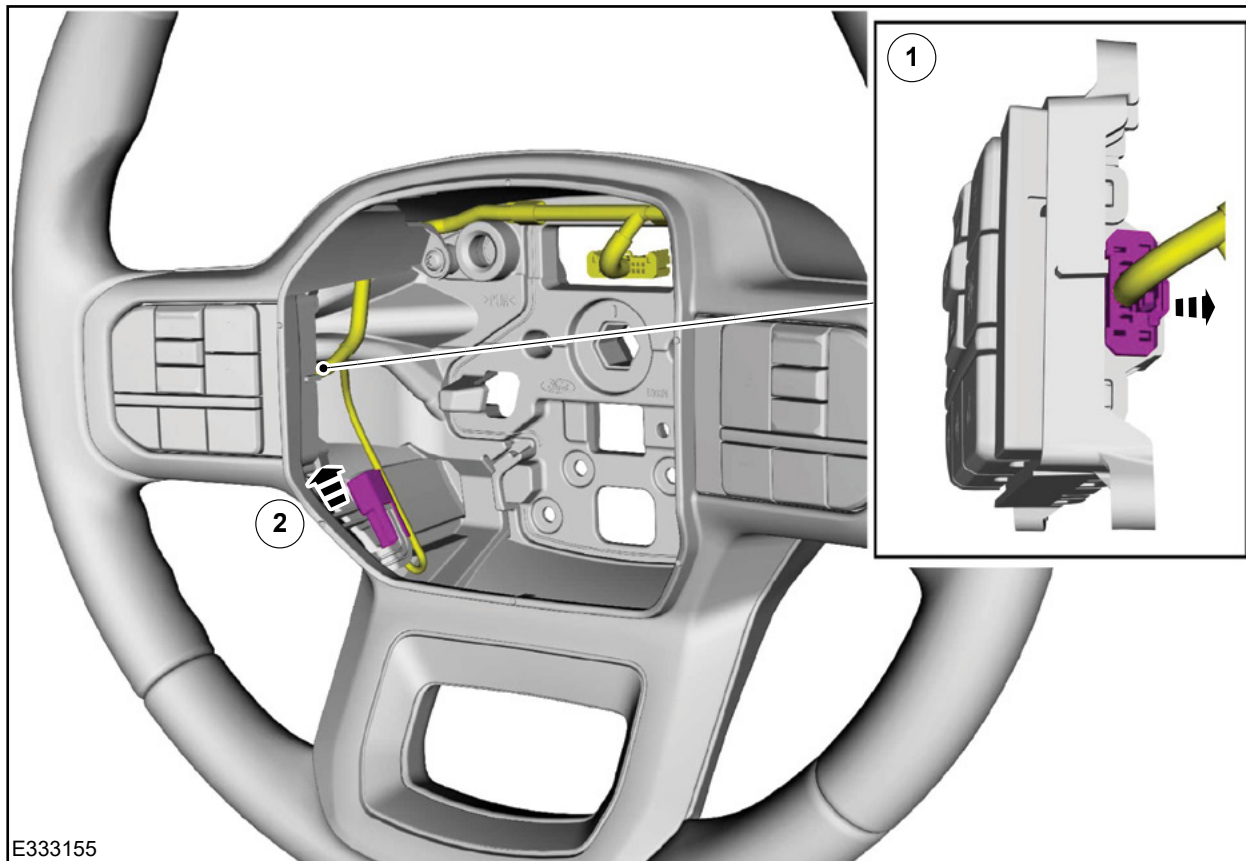

FIGURE 14
1. On both sides, disconnect the electrical connector. See Figure 14.